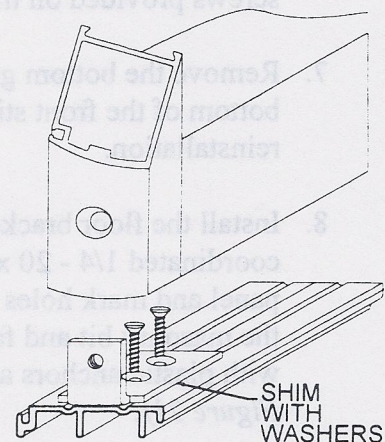

Figure 19
10. Install this clip into the floor track in line with the hole on the bottom nose of the fixed panel. It will be necessary to shim the clip to meet with the hole in the stile due to variances in floor height. A groove in the floor track will assist with any hole drilling (See Figure 19). The fixed panel will be secured in place with these two brackets at cleanup.
9. Install the floor bracket into the panel with the color coordinated 1/4-20 x 1/2 inch screw. Plumb the panel and mark the holes on the floor. Drill holes with the masonry bit and fasten the bracket to floor with plastic anchors and #10 x 1 1/2 inch screws (See Figure 19).
5. Slide the anti-risers up into the slot until there is a 1/64 inch to 1/32 inch gap between the anti-riser wheel and anti-riser track (See Figure 19). Tighten the nut on the anti-rise wheel.